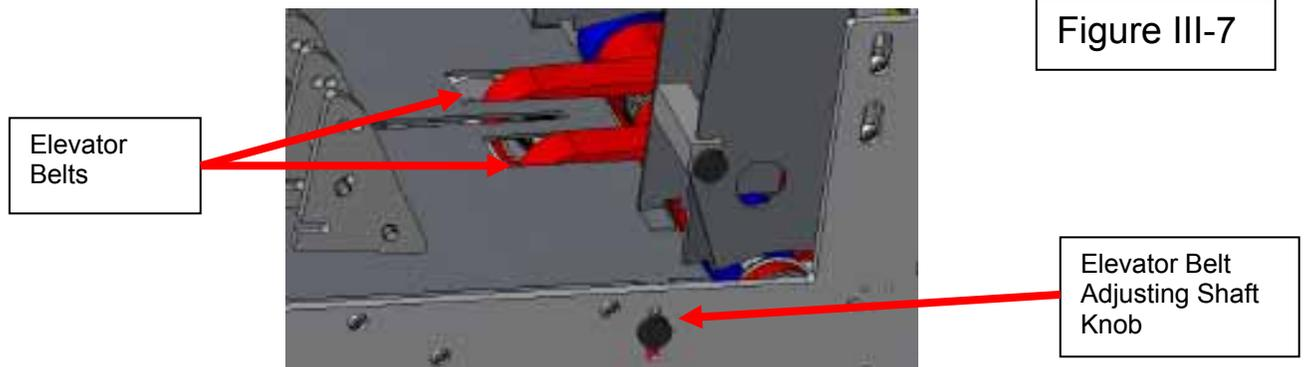

Figure III-6
7. Place approximately 3/4" thick stack of production pieces between side guides and against shroud/separator allowing pieces to shingle forward, see figure III-6.